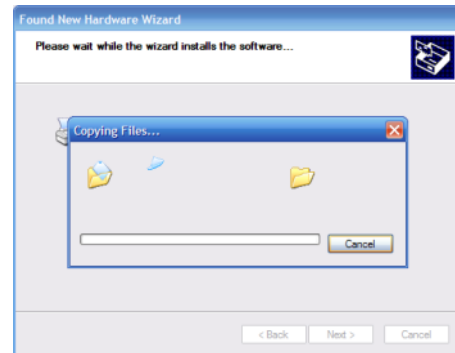

Figure 2.9
6. The install program will begin copying the necessary files to your computer (Figure 2.9).